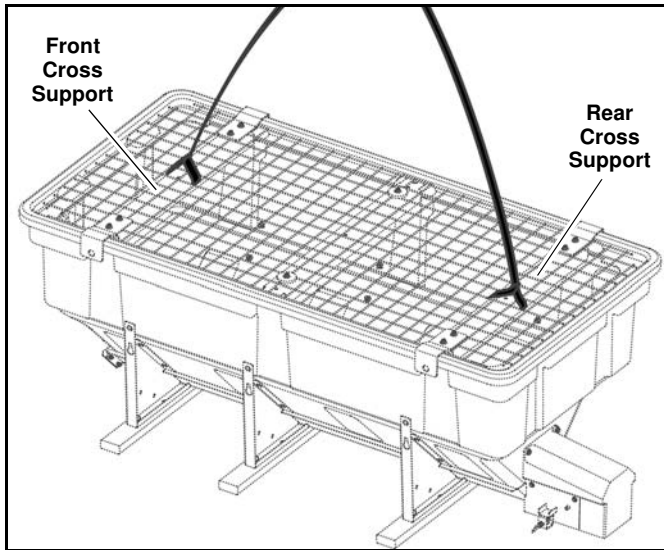

Figure 1-1
1. Attach two lift straps through the top grate to the front and rear spreader cross supports (See Figure 1-1).